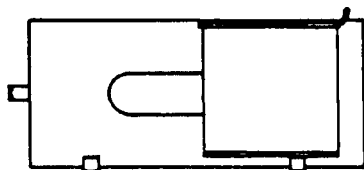

Figure 4
2. Cut 10" x 10" opening and weld end caps. Use the cut-out piece to fabricate hatch door, Figure 4.